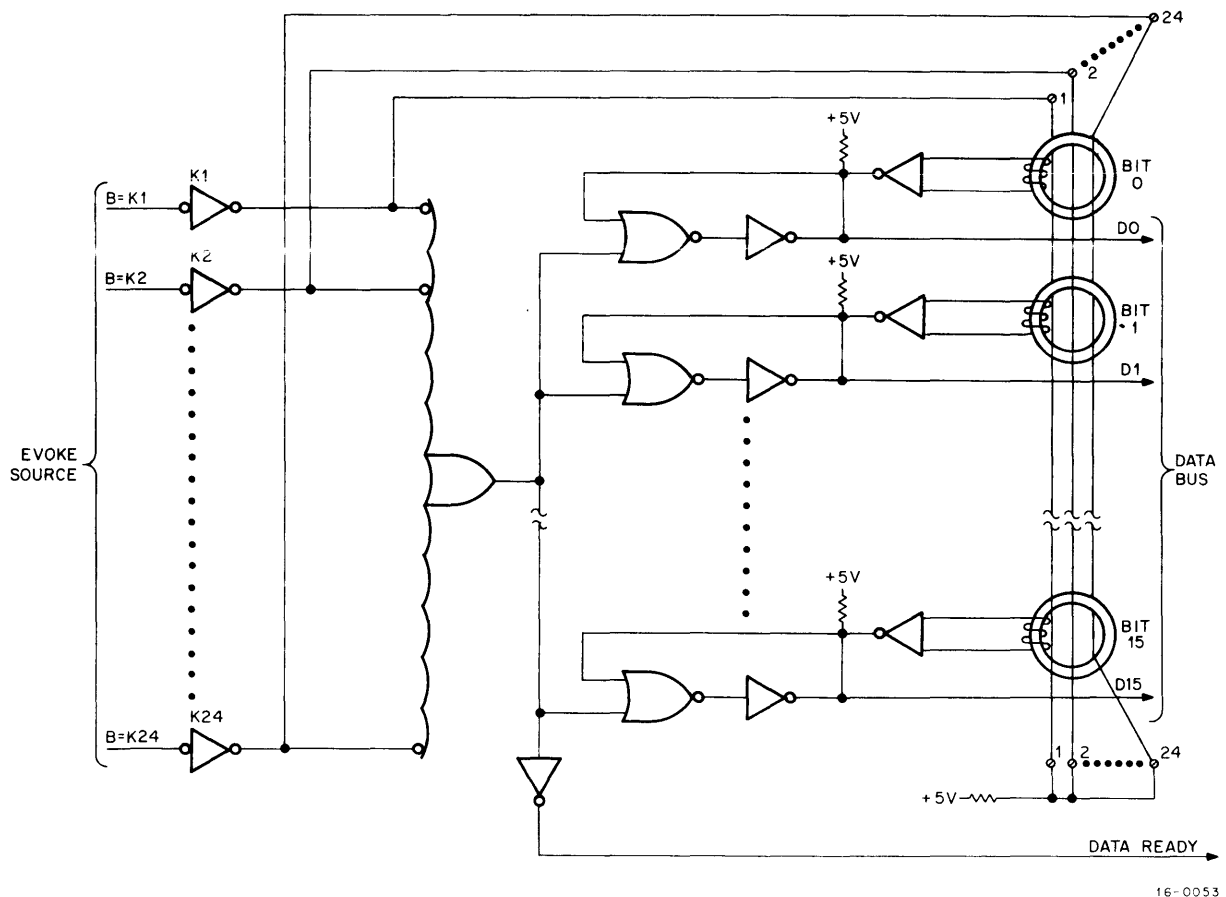
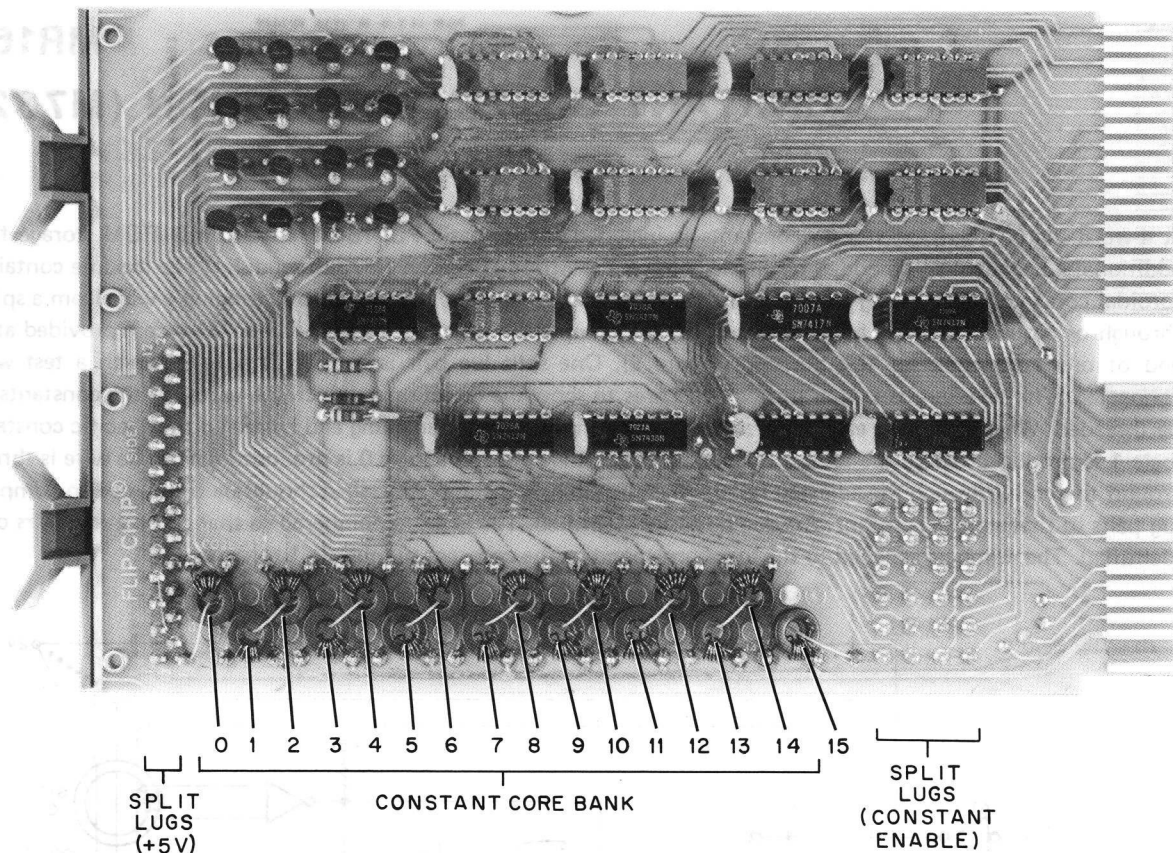

Figure 1 Constant Generator Option MR16-D, Block Diagram
Figure 2 Constant Generator Module M7325, Core Bank and Split Lug Location
A 4-word diode ROM for storing constants is included in the basic PDP16-M. Transformer ROM storage for 24 additional constants can be added by implementing the MR16-D option (M7325 module). The module contains 16 toroidal cores and data gating logic (Figure 1). Each 16-bit constant is installed by stringing a wire from a split lug through or around (adjacent hole) each core to the companion split lug. Twenty-five split lugs are provided at each end of one core bank for this purpose (Figure 2). One split lug pair is a test (T) pair to which a test wire is connected. The test wire is strung through all cores to show the direction in which the wires for the constants must be threaded. When installed, each wire establishes a current path for enabling and reading out a specific constant. A logic 1 is produced where the wire is threaded through the core and a logic 0 is produced where the wire is threaded around the core (through the adjacent hole). When installing constants, the wires should be connected to companion lug pairs so that a given constant wire can be easily identified. The lugs are numbered so that companion pairs can be identified. The numbers assigned to the lugs correspond to the constant number (K1 through K24).